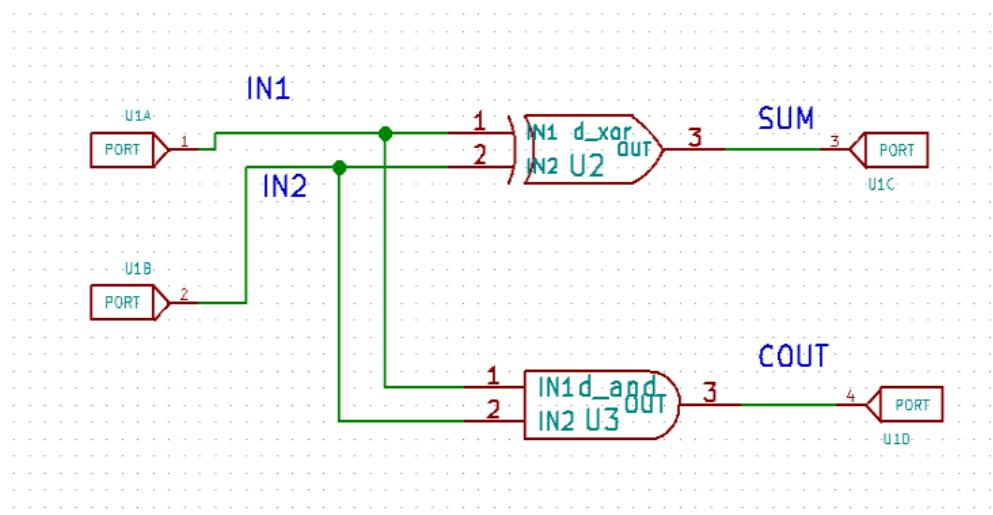
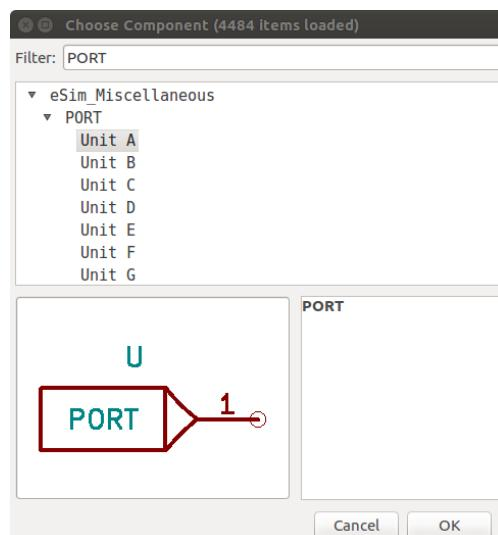

Figure 8.4: Half-Adder Subcircuit
Figure 8.5: Selection of PORT component
the number of input and output pin. The circuit will look like Fig. 8.4 after adding PORT to it. The PORT component can be found in the eSim\_Miscellaneous library as shown in Fig. 8.5. Select a different port for each node (input or output), the PORT has 26 such components named alphabetically as Unit A, Unit B to Unit Z, meaning you can create a subcircuit up-to 26 pins(input, output combined).
1. A **.sub** file is nothing but textual representation that is passed to the simulator which essentially informs the simulator about the nodes, and behavior of the subcircuit block. Remember the Fig. 8.4 circuit? It will be saved in a **.sub** file once we complete this process!